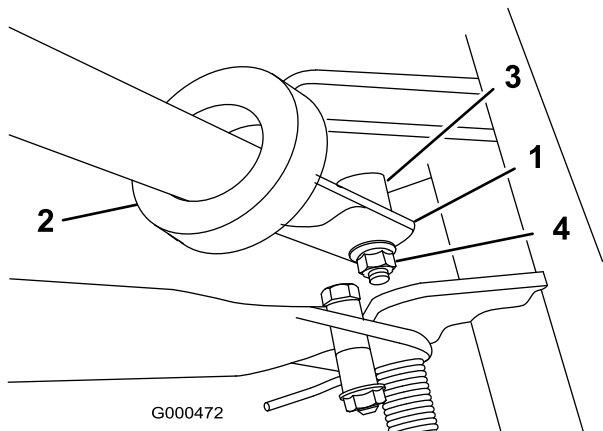

Figure 5
2. Insert the handle ends through the slots in the handle support arms (Figure 5).
3. Squeeze the handle ends inward and install them on the step of the pivot pin (Figure 5).
4. Secure the handle to the bolt and pivot pin with the flange lock nut (Figure 5).